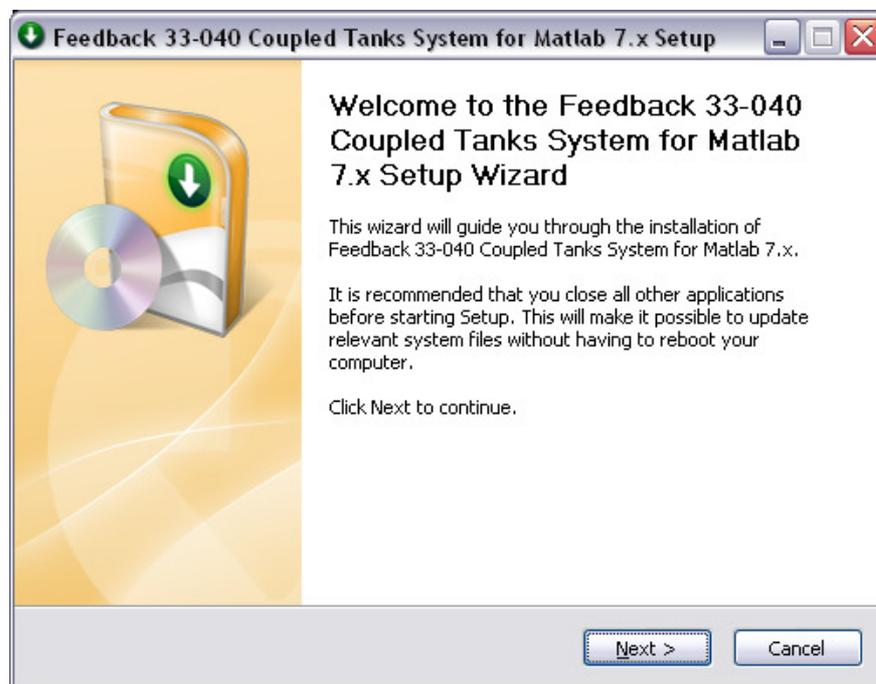

Figure 18 Installation window
1. Close Matlab. Run the setup programme from the CD. The following window will open (Figure 18).